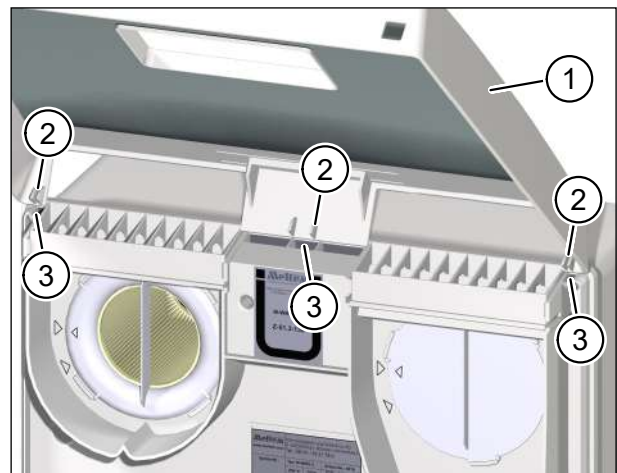

Fig. 15: Attach unit cover to ventilation unit
- ▶ Hold the unit cover (item 1 in Fig. 15) of the ventilation unit with both hands and tilt the top edge of the cover towards the ventilation unit.
- ▶ Insert the tabs (item 2 in Fig. 15) of the unit cover into the openings (item 3 in Fig. 15) on the top of the ventilation unit.